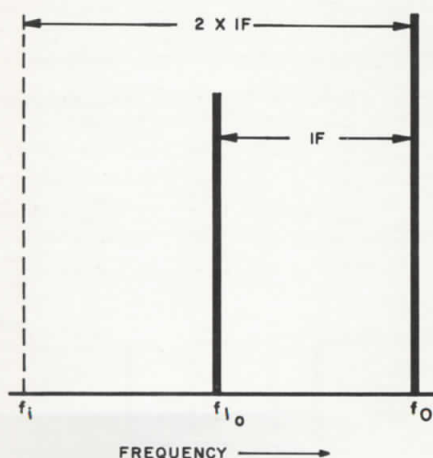

Figure 8. Image Frequency
Using the 230A Power Amplifier, IF rejection tests are made on receivers where this rejection is extremely high (in the order of 100 db or more). The image frequency (F_i) is that frequency which is twice the intermediate frequency (IF) away from the desired signal frequency (F_o), in the same direction as the local oscillator (F_{1o}). See Figure 8.